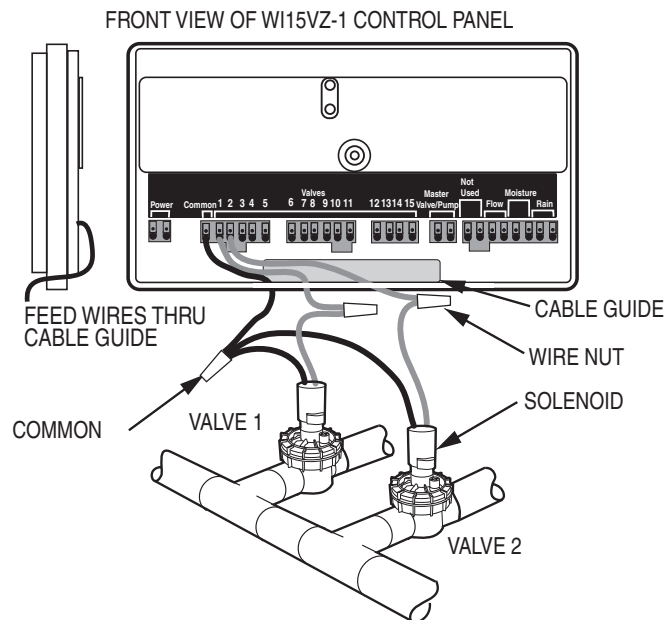

Figure 4. Wiring Valves to Controller
2. Connect the Common wire to (1) one of the valves. (For simplicity only two valves are shown in diagram below). A maximum of 15 valves can be wired to the controller. Connect the other wire of each valve to a corresponding wire of the cable bundle. All connections should be made with wire nuts. To prevent electrical overload one common wire should be connected to each valve and only one valve should be connected to each station (See Figure 4).